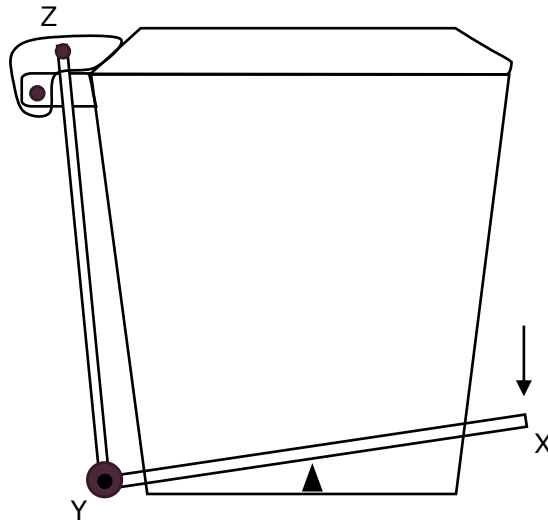

Figure 11
22. Figure 11 shows a foot-pedal waste bin which includes a mechanical system to open the lid. The pedal is attached at point X. The rod XY has a fixed pivot at the centre.
- a. Give **ONE** reason why steel rods were used to fabricate the levers. (1)
- b. Explain how the mechanical system can be modified to make it easier for the user to press the pedal. (2)
- c. On Figure 11, add an arrow to show how point Y moves. (1)
- d. Discuss how an emergent technology concept could be incorporated in the design of the pedal waste bin to improve the product. (2)